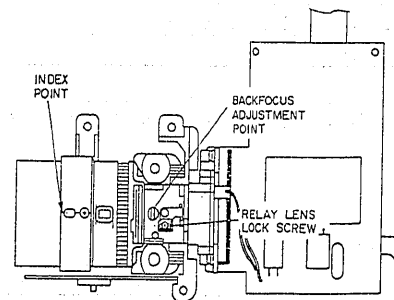

Fig. 4-3
(3) Backfocus Adjustment (Fig. 4-3)